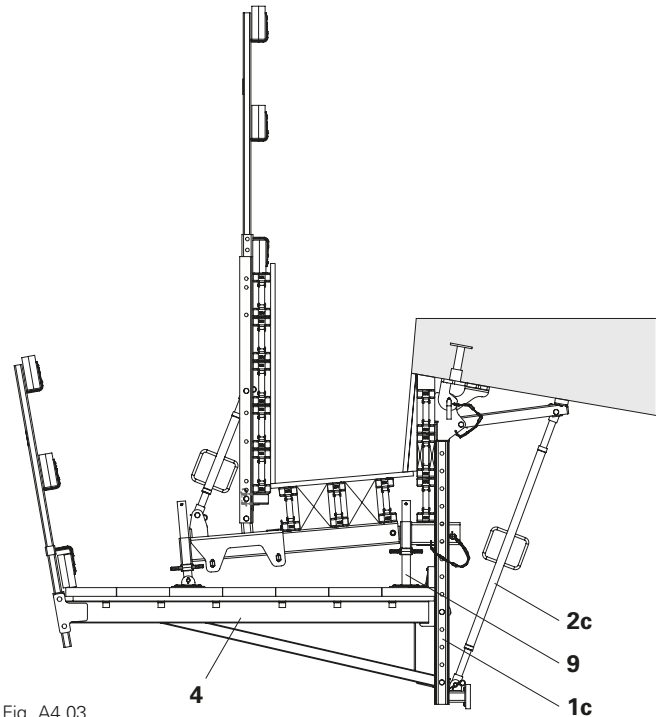

Fig. A4.03
- Platform Cantil. Beam VGK 170 (**4**) is connected to the holes on Bracket Post VGK 139 (**1c**) according to the dimensions of the cantilevered parapet. (Fig. A4.03)